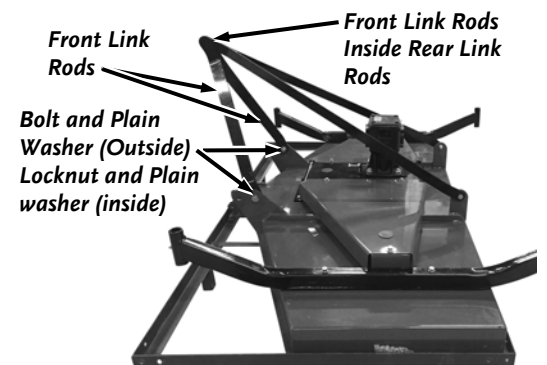

Figure 8
3. Loosely install the two Front Link Rods on the **inside** of the front Deck Tabs with two M16X40 Bolts (#40827), M16 Plain Washers, and M16 Locknuts using two 27mm Wrenches (**Figure 8**).